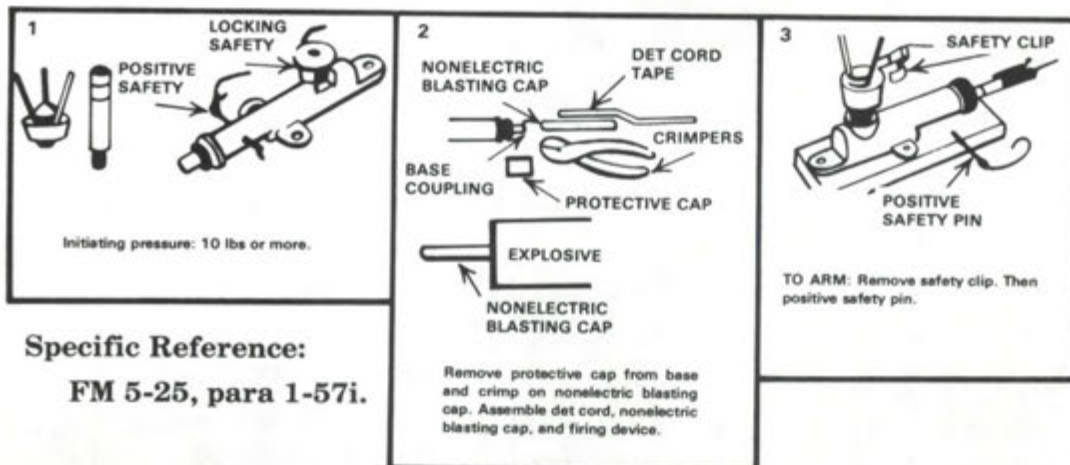

Figure 1. M1A1 pressure firing device.
1. To install an M1A1 pressure firing device (figure 1).